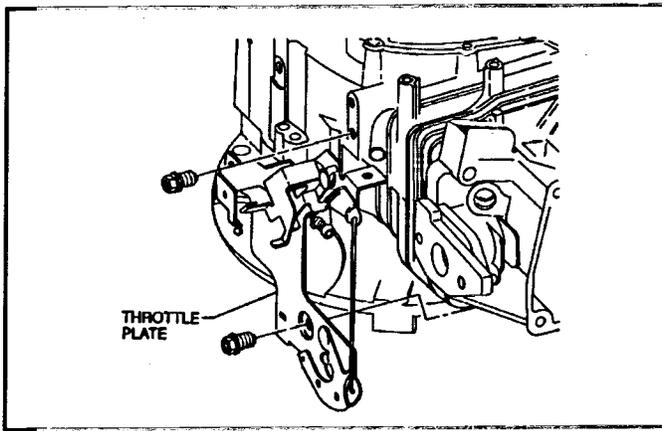

Figure 47
2. Remove the two 3/8" hex, washer head screws that retain the throttle bracket to the engine block. See Figure 47.